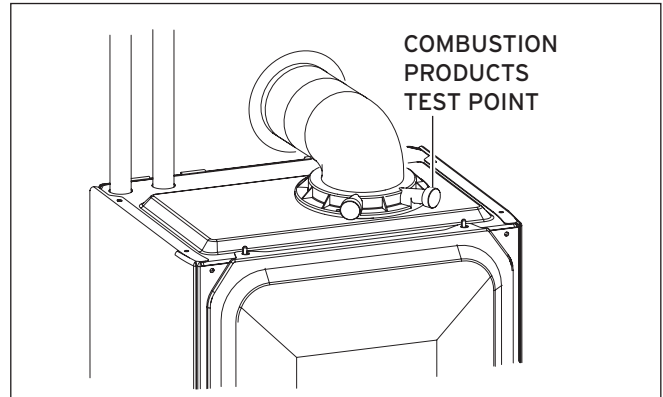

Fig. 9.1 Test point
- Measure the CO₂ content at the combustion products test point, see fig 9.1.